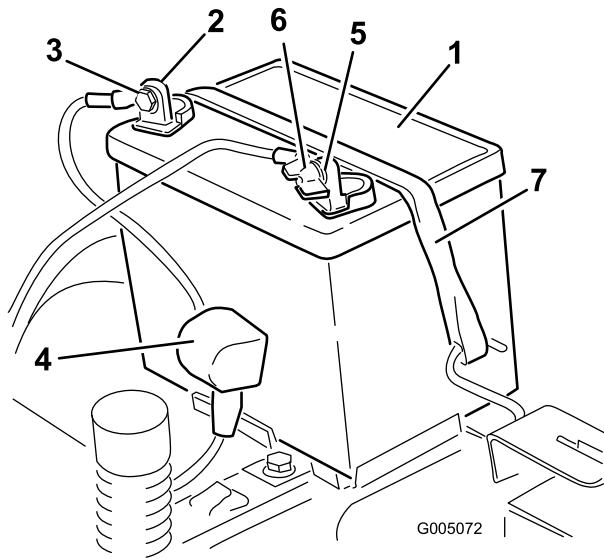

Figure 34
4. Disconnect the negative (black) ground cable from the battery post (Figure 34). Retain all fasteners.
- Slide the rubber cover up the positive (red) cable. Disconnect the positive (red) cable from the battery post (Figure 34). Retain all fasteners.
- Remove the battery hold-down (Figure 34) and lift the battery from the battery tray.
- Position the battery in the tray with the terminal posts toward the operating position (Figure 34).
- Secure the battery with the hold-down (Figure 34).